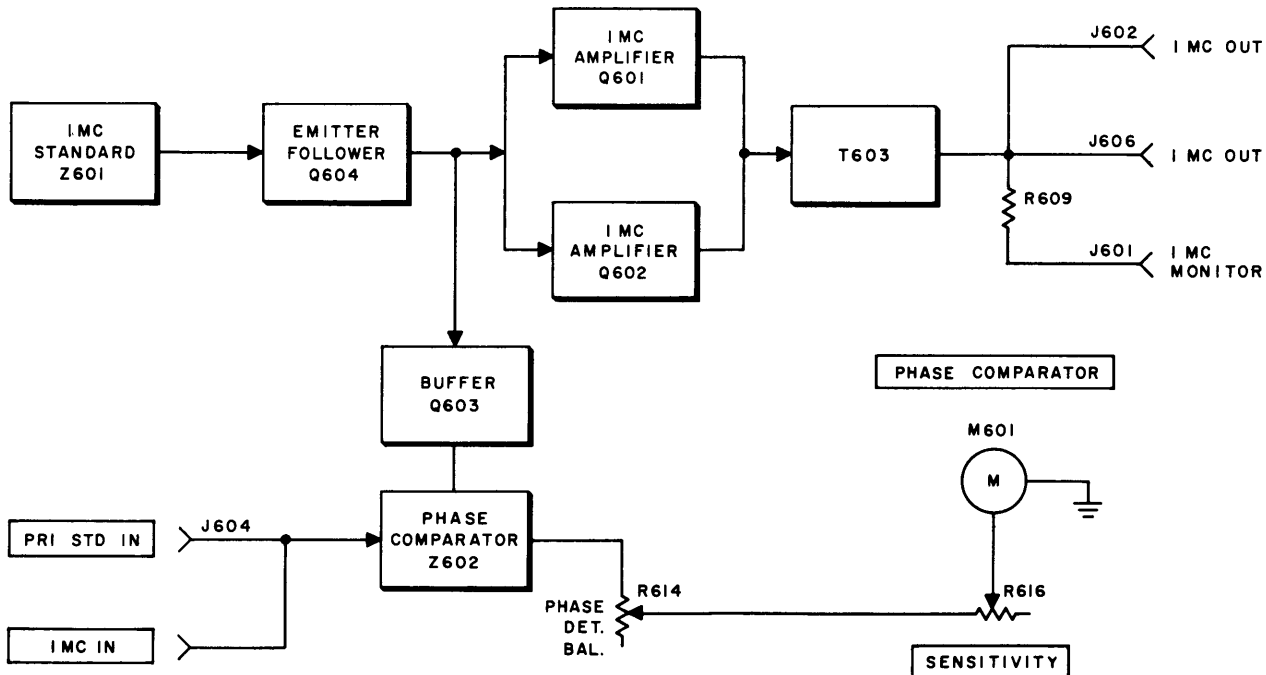

Figure 4-1. Model CSS-1B, Block Diagram
4-2. BLOCK DIAGRAM DESCRIPTION. (See figure 4-1.)
- a. Block diagram (figure 4-1).